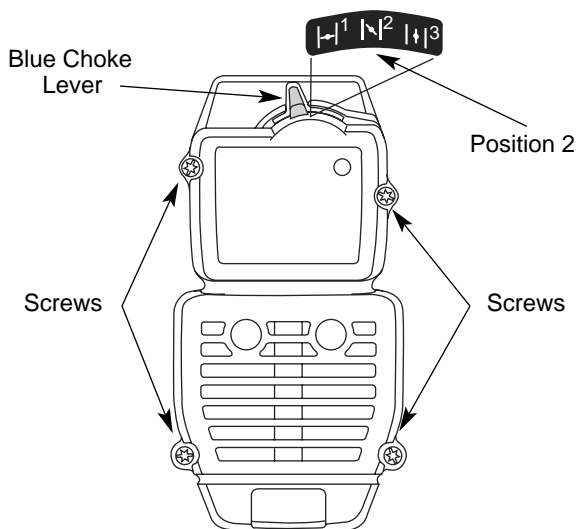

Fig. 21
2. Remove the four (4) screws securing the air filter/muffler cover (Fig. 21). Use a T-20 Torx bit screwdriver.
2. Insert the four (4) screws into the holes in the air filter/muffler cover (Fig. 21) and tighten. Do not over tighten.